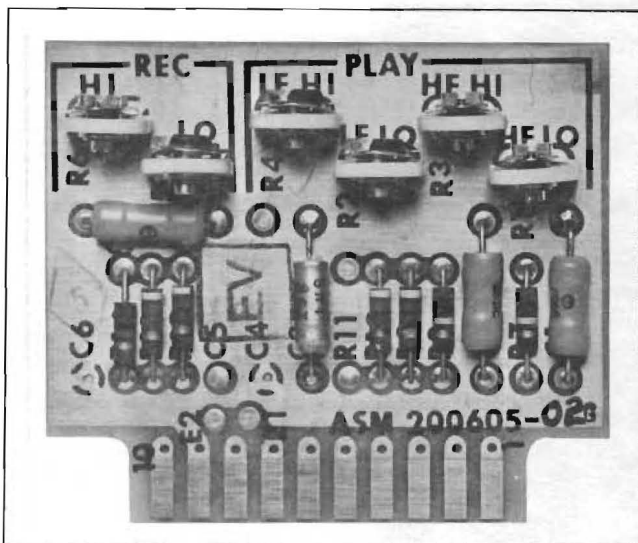

Figure 7-13. Equalization PWA Adjustments
- C. Adjust the azimuth of the playback head for a maximum signal output on the ACVM using the right-hand slotted-head screw located on top of the head bridge mounting plate (Figure 7-13).
- D. Following instructions from the standard test tape, adjust equalization for flattest response. Adjust HF HI for high speed and HF LO at low speed (Figure 7-13). Low frequency adjustments should be made in Record mode in order to compensate for fringing effects on multi-track machines.